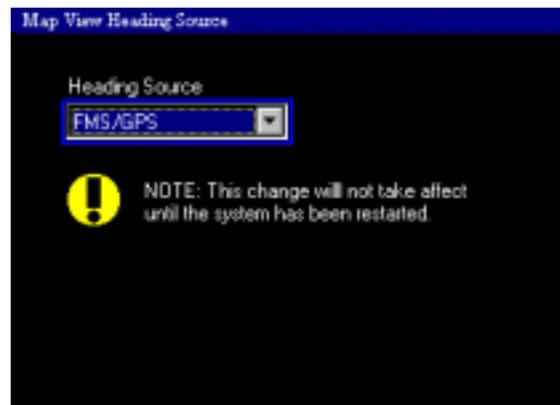

FIGURE 13: Map Heading Source Page
The heading source is configured at the Map Heading source page. (Figure 13) which is accessed from MAINTENANCE MODE:
5. Use the **Enter** button to return to the DEVICES menu and select MAP HEADING (Figure 13).